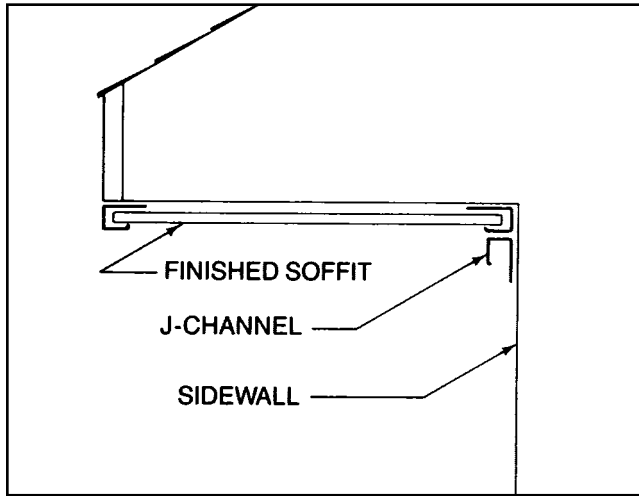

Fig 7.5
- B. At the top of side walls, install J-Channel along the eaves (Fig. 7.5).